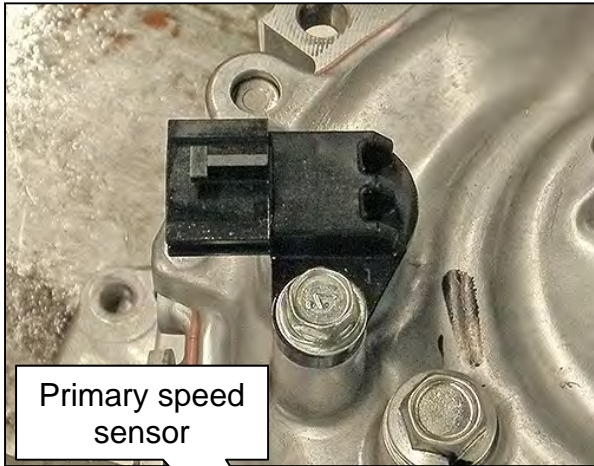
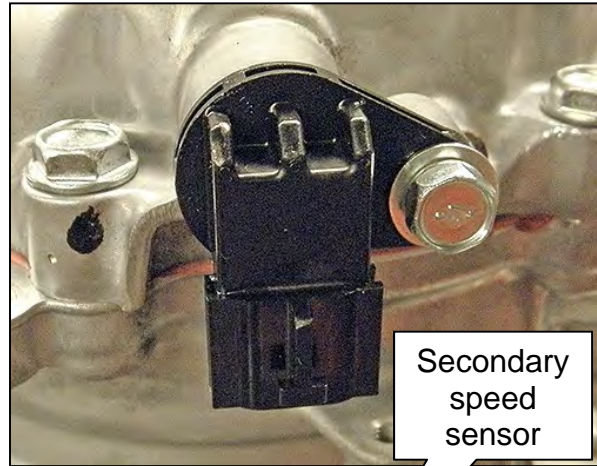
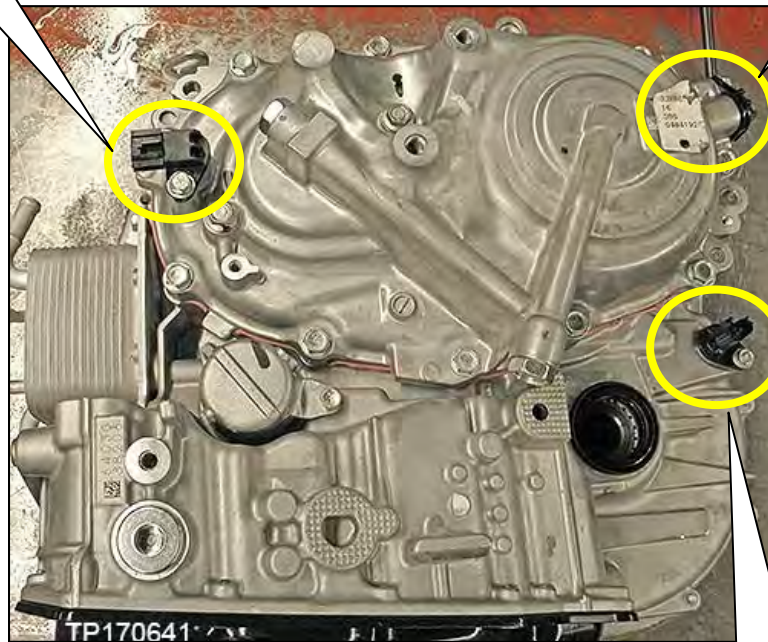

Figure 54
Figure 55
Figure 56
34. Remove the output speed sensor, primary speed sensor and secondary speed sensor from the CVT (Figure 54, Figure 55 and Figure 56).